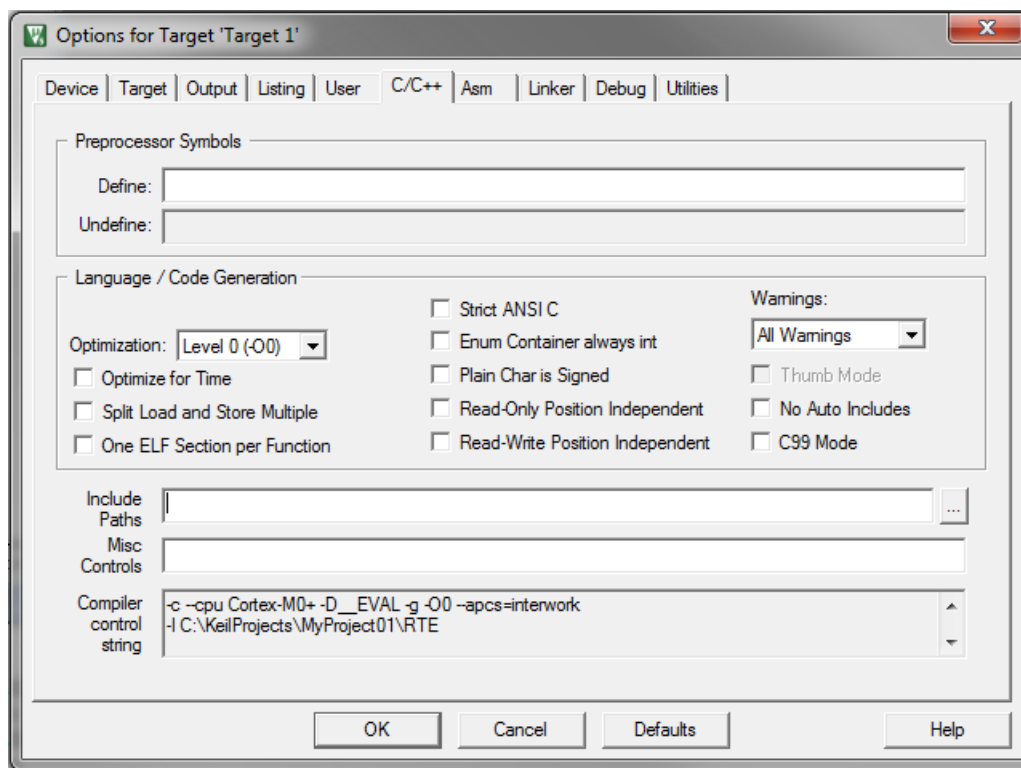

Figure 1-34. Library path addition
2. Select the C/C++ tab. See Figure 1-34.